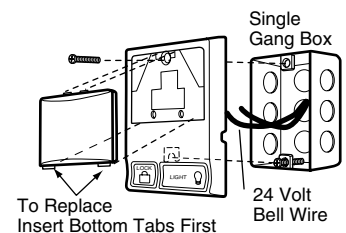

Figure 3 MULTI-FUNCTION DOOR CONTROL (BACK)
1. Strip 1/4" of insulation from one end of bell wire and connect to the two screw terminals on back of door control by color: white wire to 2 and white/red wire to 1 (Figure 3).